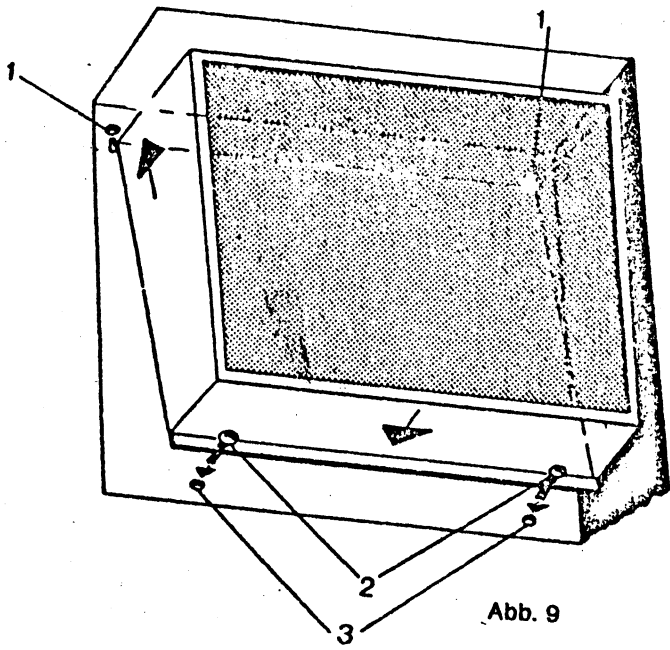

Abb. 9
3. With the 2 lugs pointing upwards, fit the activated filter into the 2 retaining holes (Fig. 9/1) after removing plastic rivets.
4. Push the 2 expanders (Fig. 9/2) into the 2 bottom holes (Fig. 9/3) after removing plastic rivets.